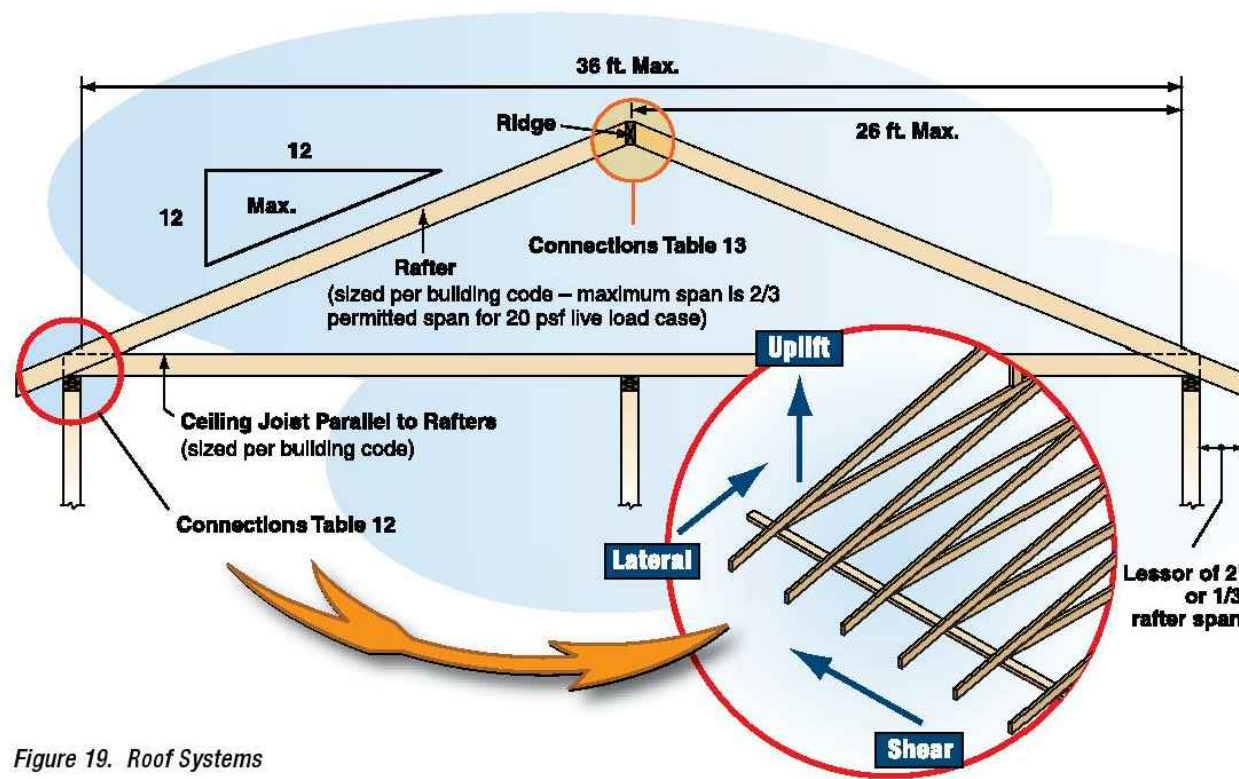

Figure 19. Roof Systems
■ **Framing Member Span.** Roof framing spans shall not exceed 36 feet (See Figure 19).
■ **Rafter Overhangs.** Rafter overhangs shall not exceed the lesser of one-third of the rafter span or 2 feet (See Figure 19).